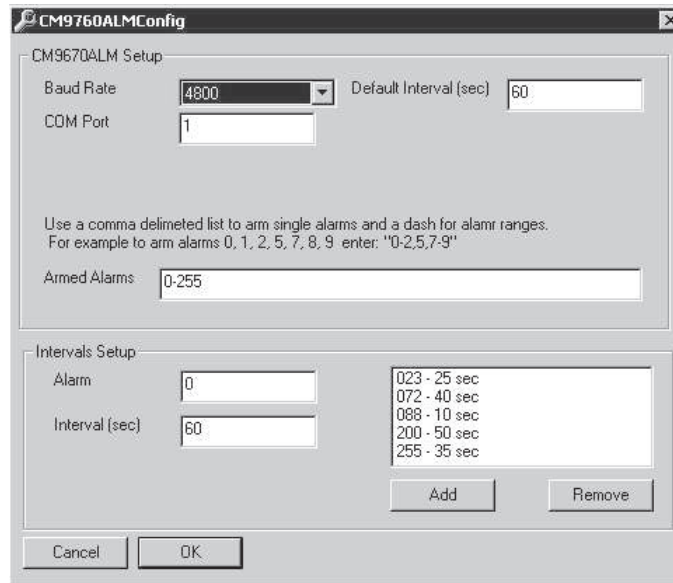

Figure 73. CM9760 Alarm Configuration Dialog Box
- Add intervals for specific alarms. Figure 73 shows five different intervals for five different alarms.